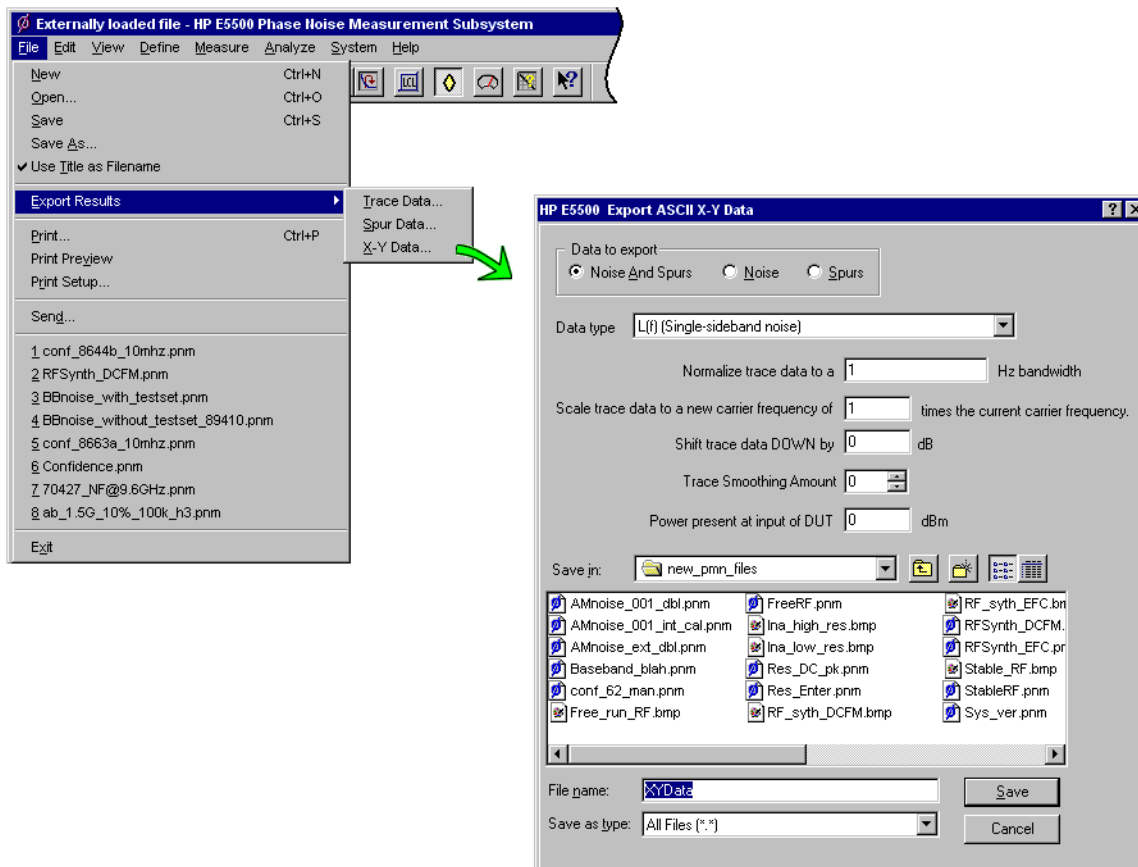

Figure 5-44 X-Y Data Results
- 1 On the **File** menu, point to **Export Results**, then click on **X-Y Data**. See Figure 5-44.